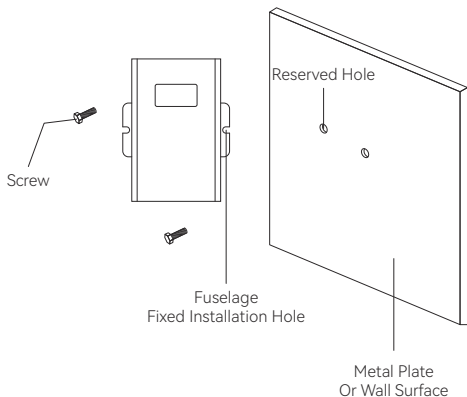

Figure 3-1 Fixed Installation Diagram
(1) Drill holes at the selected installation location and secure the product using installation screws, as shown in Figure 3-1.